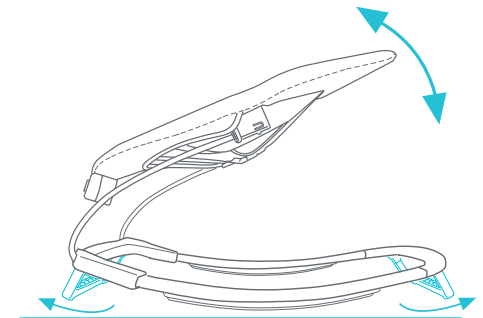

Fig. 9d
**Convert to Bouncer:** Flip-out the 2 stationary feet, bounce manually (Fig. 9d).